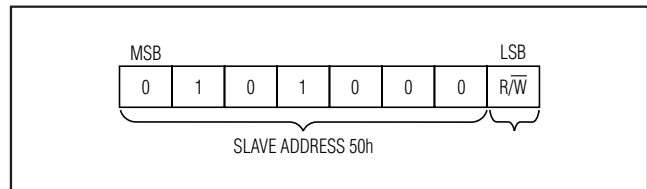

Figure 1. DS3503 Slave Address Byte
**Slave address byte:** Each slave on the I2C bus responds to a slave address byte sent immediately following a START condition. The slave address byte contains the slave address in the most significant 7 bits and the  $R/\bar{W}$  bit in the least significant bit. The DS3503's slave address is 50h (see Figure 1).